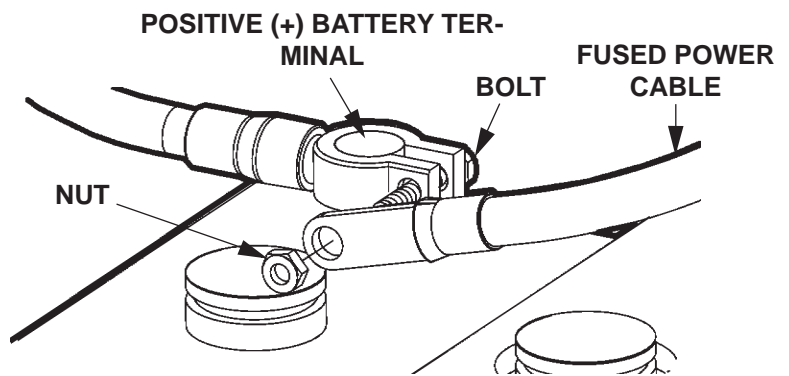

FIG. 7-2
10. Reconnect power to Liftgate. Remove nut from positive (+) battery terminal connector. Reconnect the Power Cable to positive (+) battery terminal connector (**FIG. 7-2**). Reinstall and tighten nut.